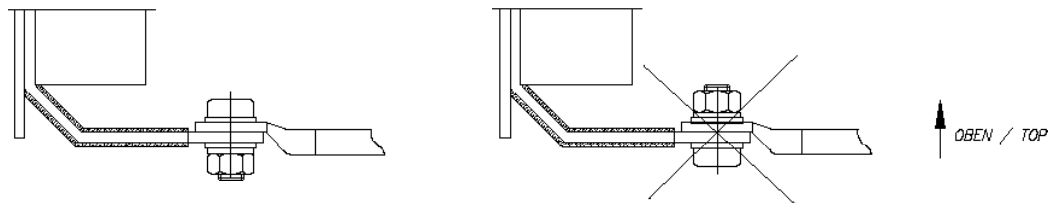
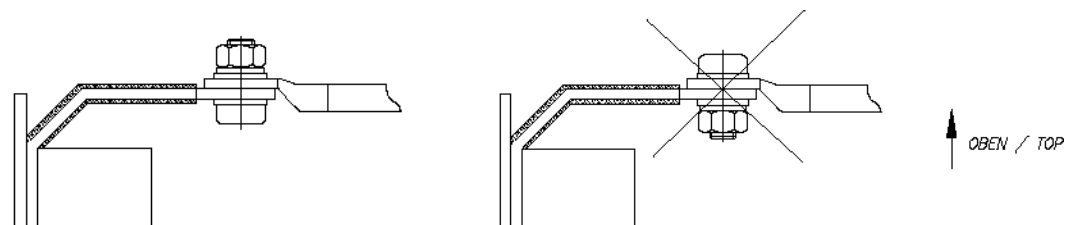
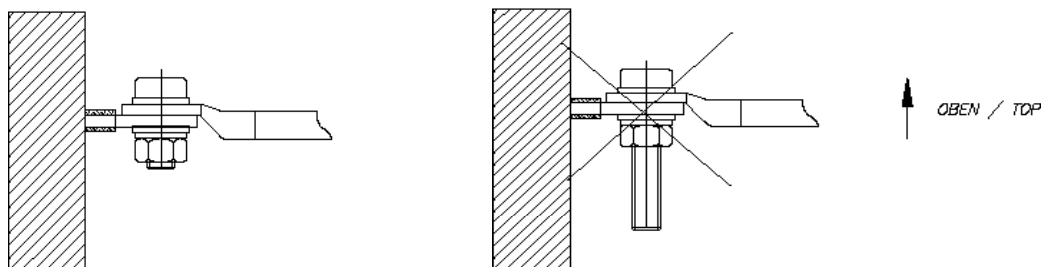

Figure 13: Drawing of bolted electrical connection; beginning of winding at the bottom of the coil
Figure 14: Drawing of bolted electrical connection; beginning of winding at the top of the coil
Figure 15: Drawing of bolted electrical connection; end of winding
The minimum electrical spacing on the electrical connection must be maintained by bolting the connection cables or busbars as depicted in the drawings in Figure 13 to Figure 15. The cable lug or busbar is positioned on the top of the product terminal. At the beginning of the winding, the position of the bolt head is defined by the beginning of the winding being on top or on the bottom of the coil. If the beginning of the winding terminal is at the bottom of the coil the bolt head is on the top side of the terminal (Figure 13). If the beginning of the winding is at the top of the coil the bolt head is positioned underneath the terminal (Figure 14). At the end of the winding the bolt head is always positioned on the top side of the terminal. (Figure 15). The length of the bolt should be as short as possible. For the testing purposes, a maximum length of 50 mm is assumed.
At the beginning of the winding the copper terminal extends outside of the coil (Figure 13 and Figure 14). At the end of the winding the terminal is directly on the coil surface (Figure 15).
- Bolt the electrical connection as depicted in Figure 13 to Figure 15 on the page to the left.